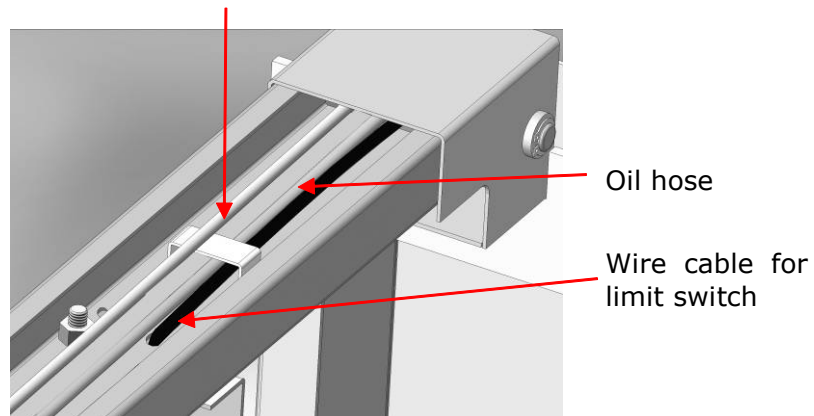

Fig. 32
2. Install safety cable and oil hose (See Fig. 30 & Fig. 31 & Fig. 32) .